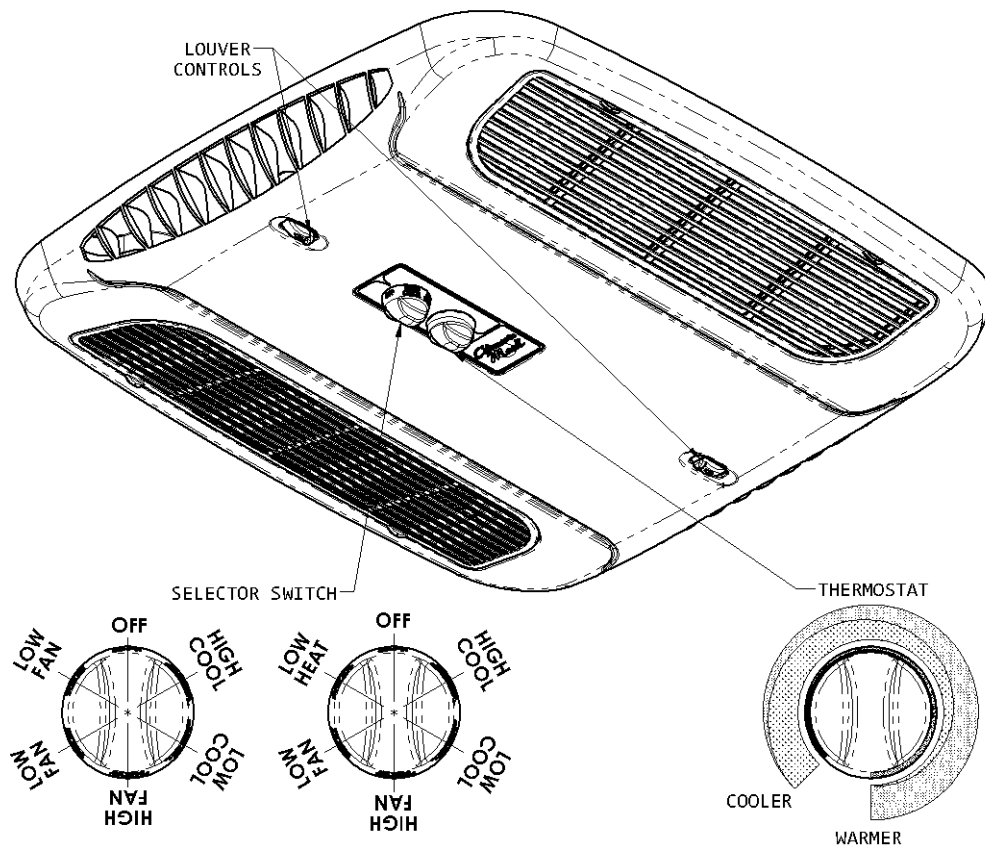

FIGURE 1
- A. The Selector Switch – The selector switch determines which mode of operation the air conditioner will be in. By rotating the selector switch, the operator can obtain any system function desired. System functions vary depending upon options of both the roof top unit and ceiling assembly. Figure 1 shows selector switch location and lists all available functions by model.
For “Heat/Cool” models, the thermostat also controls the “ON” and “OFF” temperature settings of the heater assembly (See Figure 1).
- I. **For Cooling (Refer to Figure 1, page 3).**
IV. For Heating (“Elect-A-Heat” Ceiling Assembly Model Only) Refer to Figure 1, page 3).
V. For Air Circulation Only (Refer to Figure 1, page 3).
2. At each of the front corners of the rooftop unit, remove the 2 screws along the side and 1 screw & clip in the lower-front as shown in Figure 1. Re-use these components to attach the 2 mounting brace assemblies. See Figure 1.
3. Insert a nylon sleeve into each of the mounting gaskets and apply them to the bottom of the mounting braces as shown in Figure 1.
4. If needed, install foam gasket strip to bottom of unit basepan (as shown in Figure 1) or to top of roof structure to separate supply and return air ductwork.